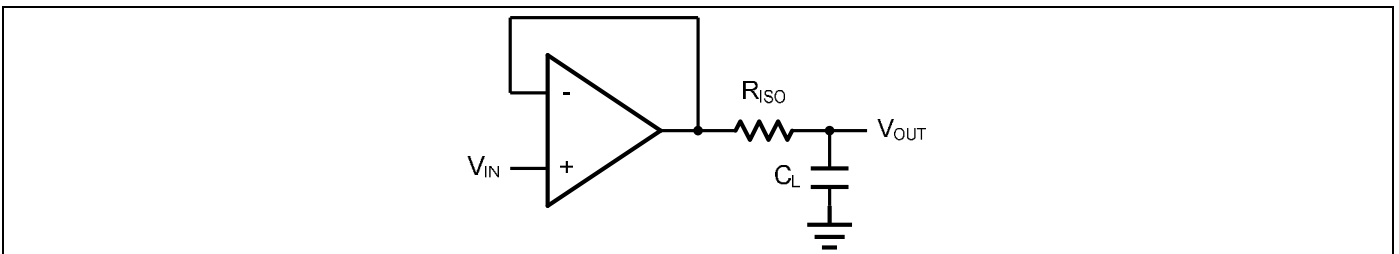
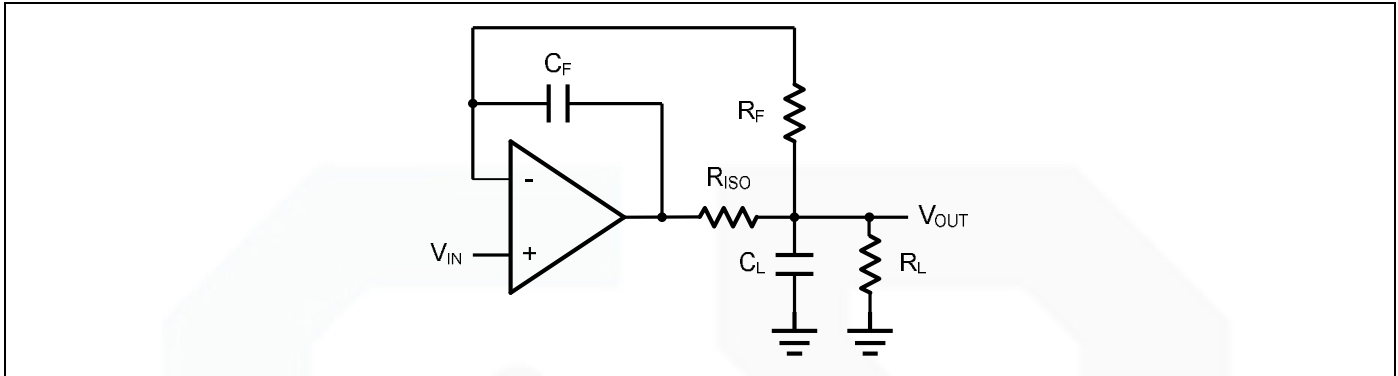

Figure 2. Indirectly Driving a Capacitive Load Using Isolation Resistor
Figure 3. Indirectly Driving a Capacitive Load with DC Accuracy
The GS8531/8532/8534 family is optimized for bandwidth and speed, not for driving capacitive loads. Output capacitance will create a pole in the amplifier's feedback path, leading to excessive peaking and potential oscillation. If dealing with load capacitance is a requirement of the application, the two strategies to consider are (1) using a small resistor in series with the amplifier's output and the load capacitance and (2) reducing the bandwidth of the amplifier's feedback loop by increasing the overall noise gain. Figure 2. shows a unity gain follower using the series resistor strategy. The resistor isolates the output from the capacitance and, more importantly, creates a zero in the feedback path that compensates for the pole created by the output capacitance.
The circuit in Figure 3 is an improvement to the one in Figure 2. R_F provides the DC accuracy by feed-forward the V_{IN} to R_L . C_F and R_{ISO} serve to counteract the loss of phase margin by feeding the high frequency component of the output signal back to the amplifier's inverting input, thereby preserving the phase margin in the overall feedback loop. Capacitive drive can be increased by increasing the value of C_F . This in turn will slow down the pulse response.